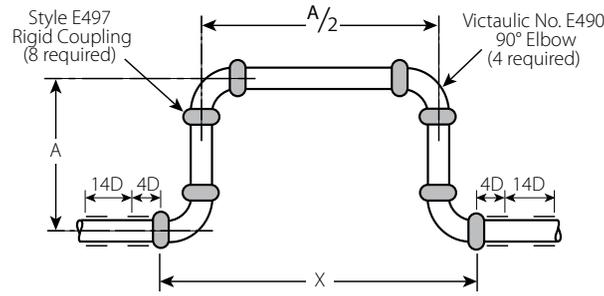

Figure 1
b. Expansion loops utilizing Victaulic rigid couplings and fittings: Expansion loops or “U” bends are frequently used to accommodate the expansion and/or contraction due to thermal changes. The necessary dimensions of a stainless steel pipe expansion loop in a StrenGThin™ 100 System can be found in following chart (see Figure 1 for loop height “A”):